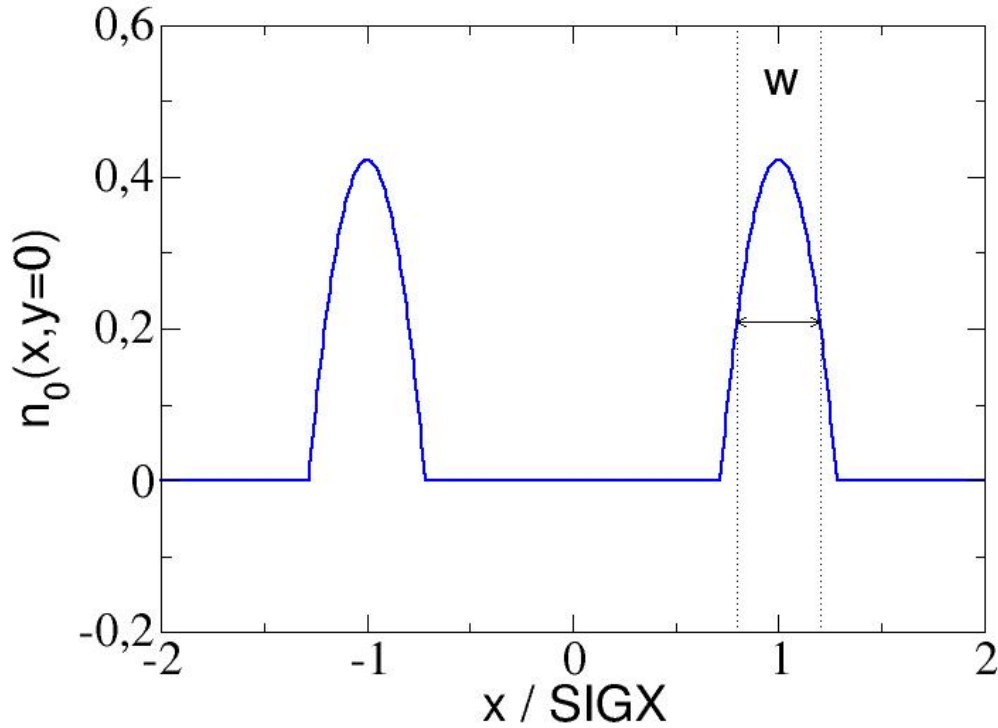

Figure 10.3: Hollow parabolic shape of radial density for beam-beam lens.
- **BBSHAPE=3**: hollow-parabolic shape (see fig.10.3). **SIGX**, **SIGY** are the distances from the centre to the maximum of the parabolic density profile in horizontal and vertical directions. Only circular opposite beam is possible, *i.e.* in the calculations $SIGX' = SIGY' = (SIGX + SIGY) / 2$ is used, if **SIGX** and **SIGY** have different values. **WIDTH** denotes the full width at half maximum of the parabolic density profile in units of **SIGX**, or **SIGX'** and **SIGY'**, respectively, if **SIGX** and **SIGY** are not equal. Condition: $WIDTH < \sqrt{2.0}$